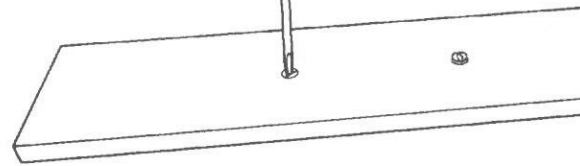
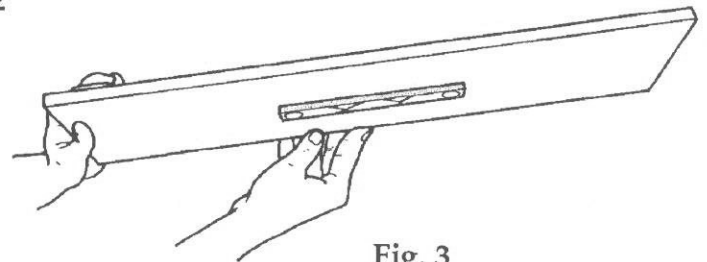

Fig. 2
Fig. 3
3. On the top side of the table, use a medium screwdriver to attach a slotted nut (4) to each tapered pin (3). See Fig. 2. Do not tighten yet. Fig. 3 shows the assembled Auxiliary Table.